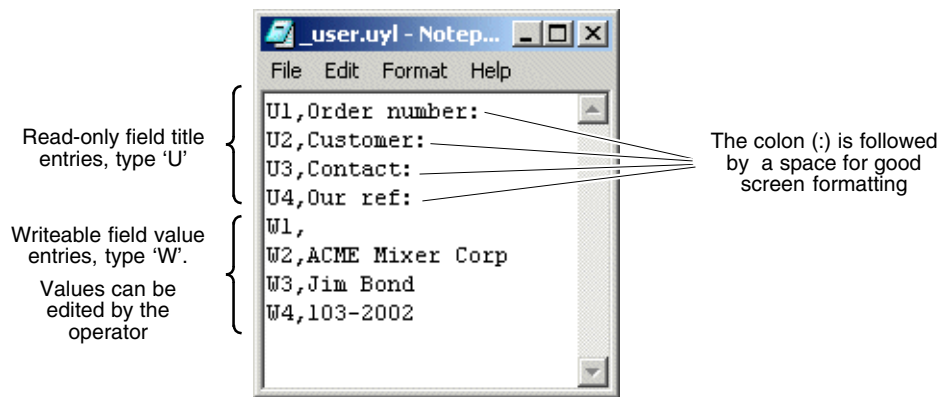

Figure 6-8 The configured ‘\_user.uyl’ user dictionary file
- 1 Open a blank text editor window, e.g. in ‘Notepad’, and type in the text shown in Figure 6-8. Each entry occupies one line and has the format **<entry type><index number>,<text string>**. The text string may be blank, if no (initial) value is to be displayed.